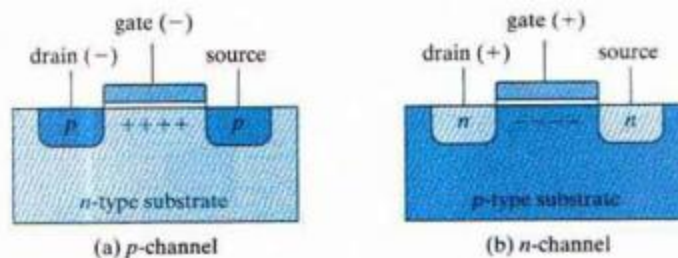

Fig 15. Basic structure of MOS transistor
- The former is used in linear circuits and the latter in digital circuits. MOS transistors can be fabricated in less area than bipolar transistors. The basic structure shown in figure 15